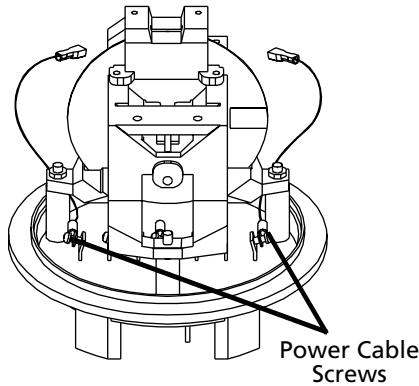

Figure 4. Attaching Power Cables
| Figure 4. Attaching Power Cables | 5 |
- 4. Attach the power cables. See Figure 4.